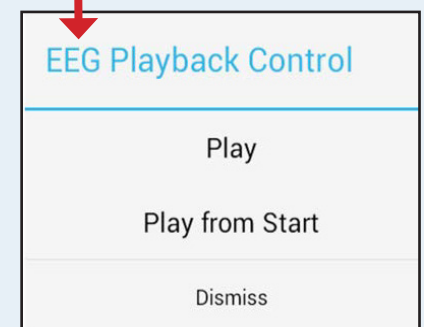

Figure 5-17:
- Round Timer Counter button – displays the Playback Control Menu (Figure 5-17)
Data Review will automatically begin playback of the recorded EEG. Seven (7) raw EEG waveforms will be displayed relative to linked ears (Figure 5-17):
To access Playback Controls, press the **ROUND TIMER COUNTER** button and the **Playback Control Menu** screen will appear (Figure 5-17).